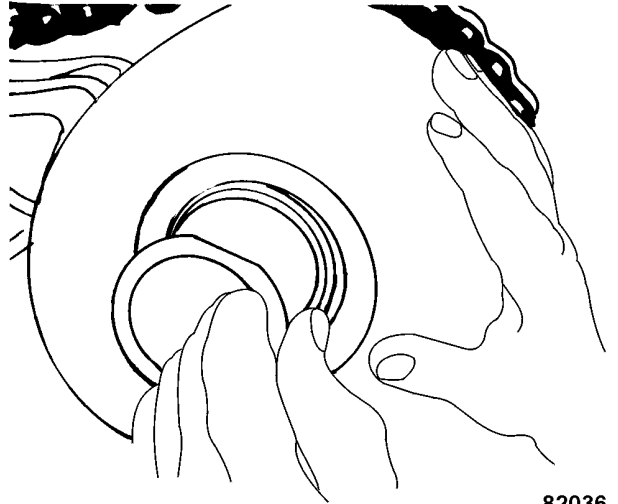

FIGURE 3-21. PLUG ASSEMBLY
10. Withdraw threaded end of plug through shell mouth. (Refer to Figure 3-21).